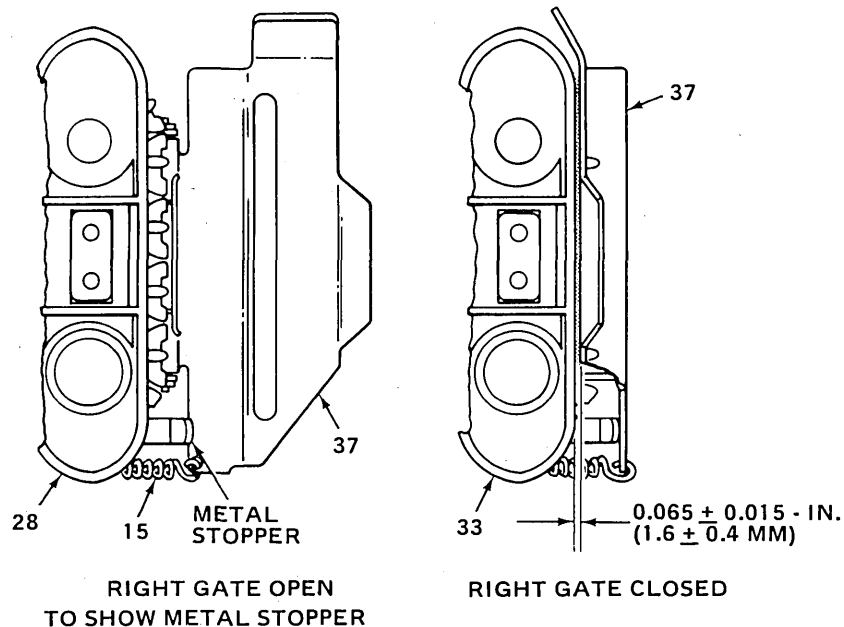

Figure 5-11. ADJUSTMENT FOR PAPER HOLDER GATE
1. Clearance between belt guide unit (33) and the paper holder gate, when closed, should be  $0.065 \pm 0.015$ -inch ( $1.65 \pm 0.4$  mm) to hold paper in place when printer is operating.
2. Adjust for clearance by bending right angle metal stopper at bottom of pin feed holder (11,38), (See Fig. 5-11).